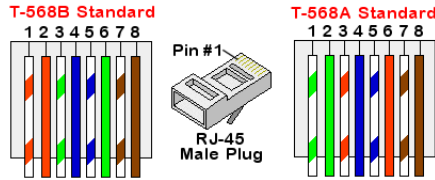

Figure 27: Standard cable wiring
- c. Insert the eight wires into an RJ45 connector, as described in *Figure 27*.
7. For the switch/router side, use a pre-terminated cable or use a crimper to prepare an RJ45 communication connector: Insert the eight wires into the RJ45 connector in the same order as above (*Figure 27*).